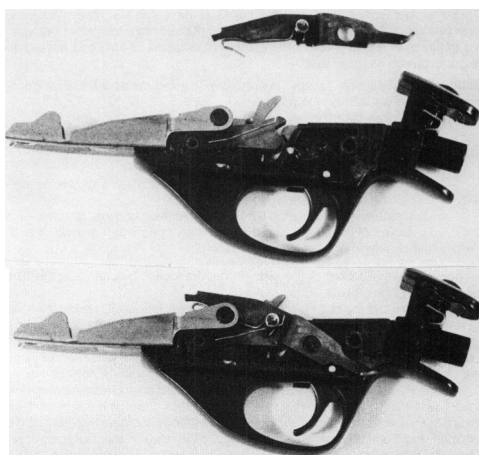

Fig. 12-10. Top: Savage slide lock and trigger group. Bottom: Correct assembly.
E. Lift out the trigger guard group. Note the position of the slide lock (Fig. 12-10). It must be held manually in place on its pivot, as it falls off easily.
I. Check to see if the slide release has fallen off the trigger guard. If it has, place the hooked spring between the hammer and the guard side and work the hole in the slide release over the pivot stud. Place the small wire spring under the grooved stud on the side of the release (Fig. 12-10), and, holding the guard and release as a unit, slide it into the receiver.